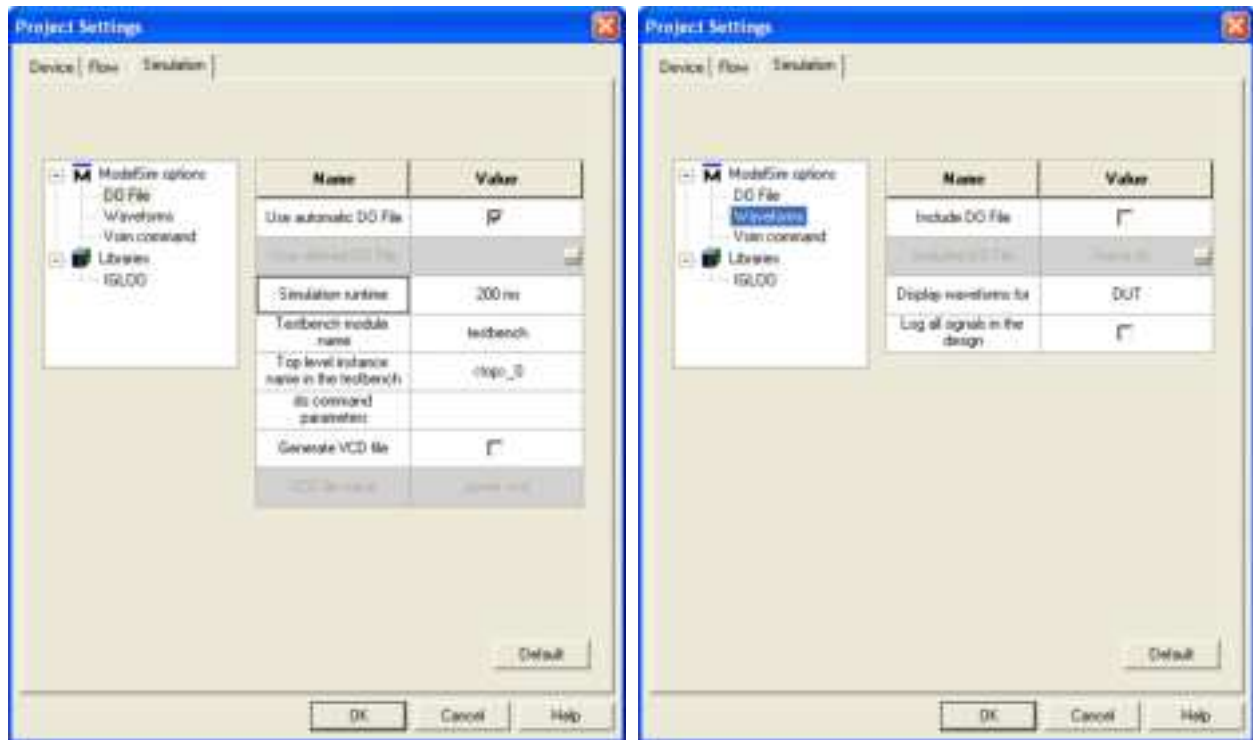

Figure 1-28 • Libero IDE Project Settings - Simulation ModelSim Options (DO File and Waveforms)
1. From the **Project** menu, choose **Settings** and click the **Simulation** tab (Figure 1-28).